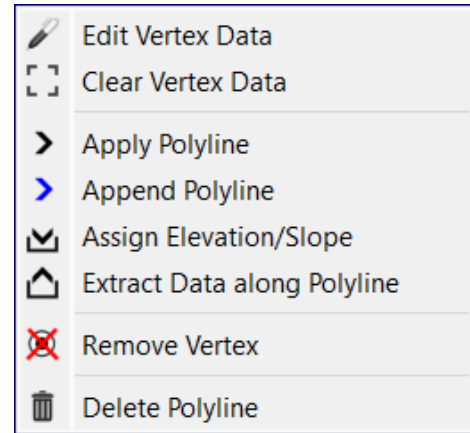

Figure 20. The Polyline Data Menu
- **Polyline Data Menu** (Figure 20): The Polyline Data Menu contains functions specific to an individual polyline and can be accessed by right-clicking on a vertex of that polyline.
2. **Polyline Data Menu** (Figure 20): This menu contains functions related to an existing polyline and can be accessed by right-clicking on a white vertex of that polyline. The available functions are as follows: